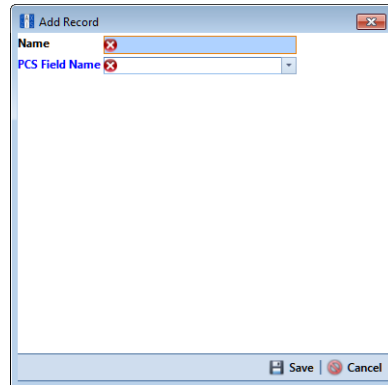

Figure 7-126. Add Record Dialog Box
- c In the pop-up *Add Record* dialog box (Figure 7-126), type a unique name for the new subfacility in the **Name** field. This field supports up to 100 alphanumeric characters. Fields requiring information include a  icon. You must enter information in the required fields before the record will be added.